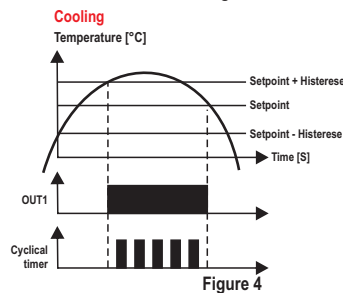

Figure 4
- **Cyclical timer output cycles whenever stage 1 output is on (F22=5):** stage 3 will cycle only when **stage 1** output is on, observing the times configured in F20 ($\overline{[C\overline{D}n]}$) and F21 ($\overline{[C\overline{D}FF]}$), as shown in Figure 4.